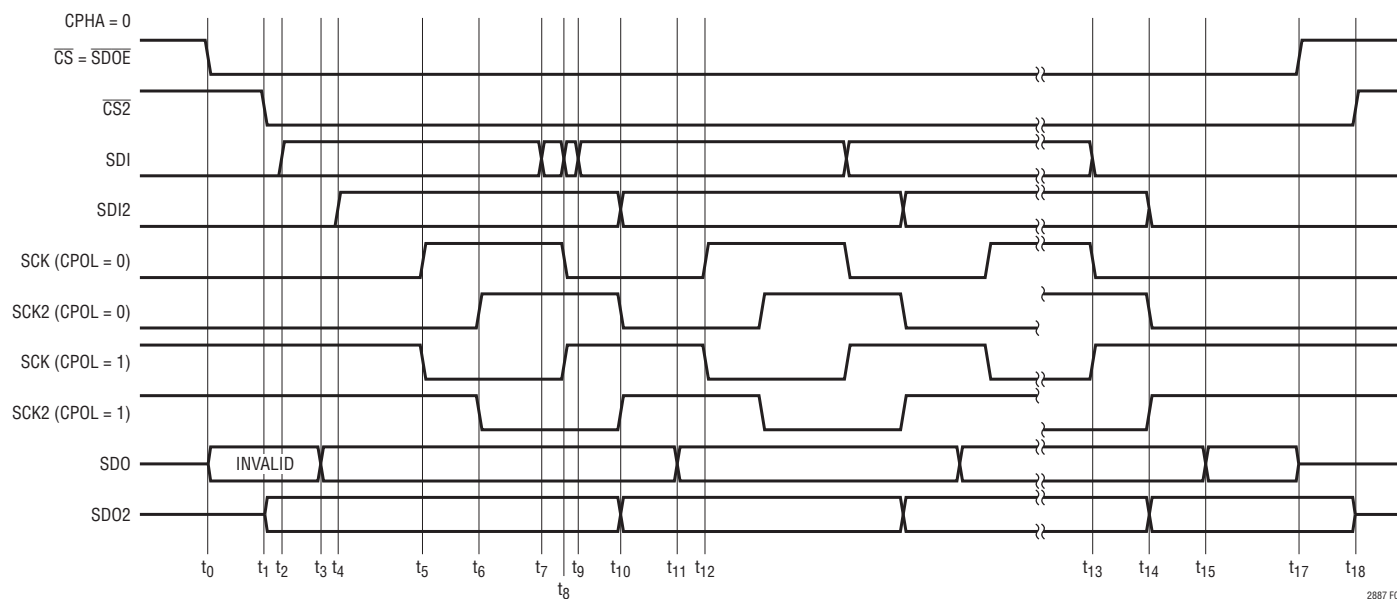
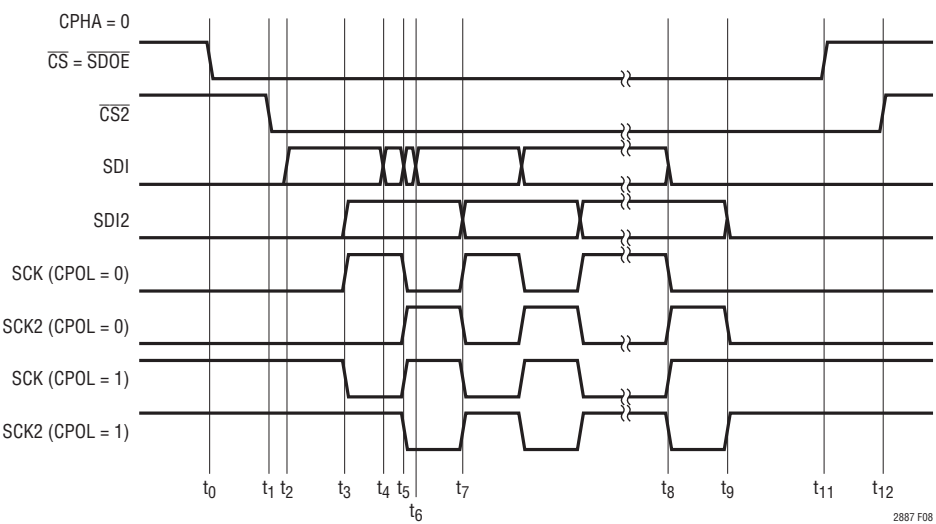

Figure 6. SPI Timing, Bidirectional, CPHA = 0
Figure 8. SPI Timing, Unidirectional, CPHA = 0
The LTM2887-S provides a SPI compatible isolated interface. The maximum data rate is a function of the inherent channel propagation delays, channel to channel pulse width uncertainty, and data direction requirements. Channel timing is detailed in Figures 6 through 9 and Tables 2 and 3. The SPI protocol supports four unique timing configurations defined by the clock polarity (CPOL) and clock phase (CPHA) summarized in Table 1.
The maximum data rate for bidirectional communication is 4MHz, based on a synchronous system, as detailed in the timing waveforms. Slightly higher data rates may be achieved by skewing the clock duty cycle and minimizing the SDO to SCK set-up time, however the clock rate is still dominated by the system propagation delays. A discussion of the critical timing paths relative to Figure 6 and 7 follows.
Maximum data rate for single direction communication, master to slave, is 8MHz, limited by the systems encoding/decoding scheme or propagation delay. Timing details for both variations of clock phase are shown in Figures 8 and 9 and Table 3.
- SDI and SCK set-up data transition occur within the same data packet. Referencing Figure 6, SDI can precede SCK by up to 13ns ( $t_7 \rightarrow t_8$ ) or lag SCK by 3ns ( $t_8 \rightarrow t_9$ ) and not violate this requirement. Similarly in Figure 8, SDI can precede SCK by up to 13ns ( $t_4 \rightarrow t_5$ ) or lag SCK by 3ns ( $t_5 \rightarrow t_6$ ).